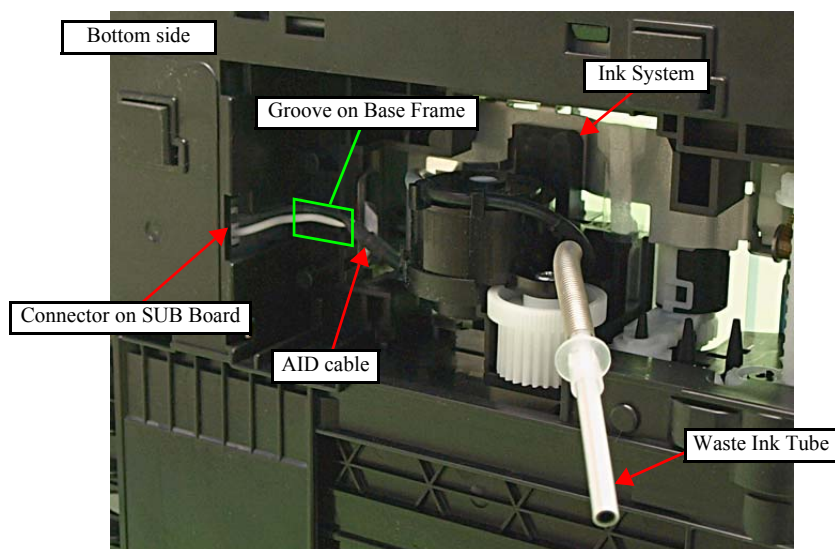

Figure 4-84. Removing the Ink System (2)
4. Disconnect the AID cable from the connector on the SUB Board.(See Fig. 4-84.)
6. Connect the AID cable to the connector on the SUB Board, and route the cable through the groove on the Base Frame. (See Fig. 4-84.)